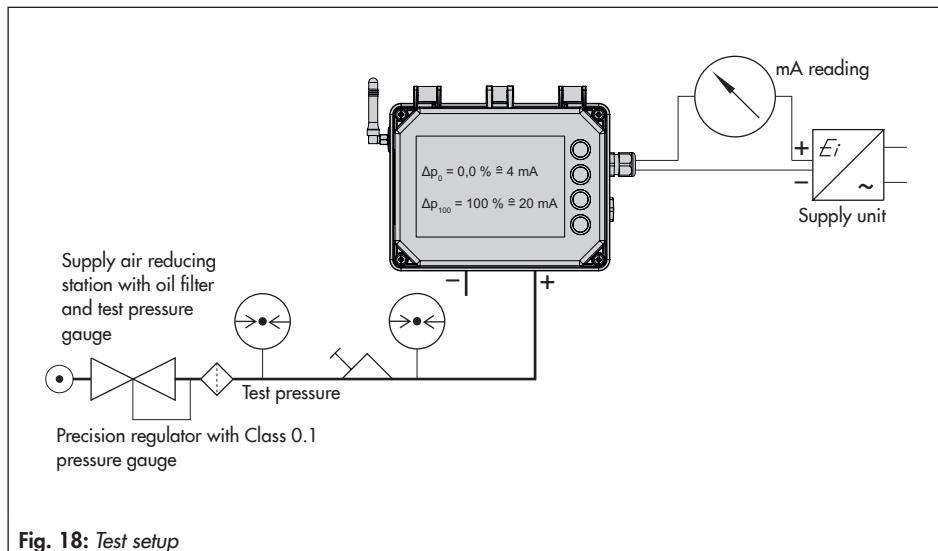

Fig. 18: Test setup
- ➔ To check the measuring range, connect the differential pressure meter as shown in Fig. 18.